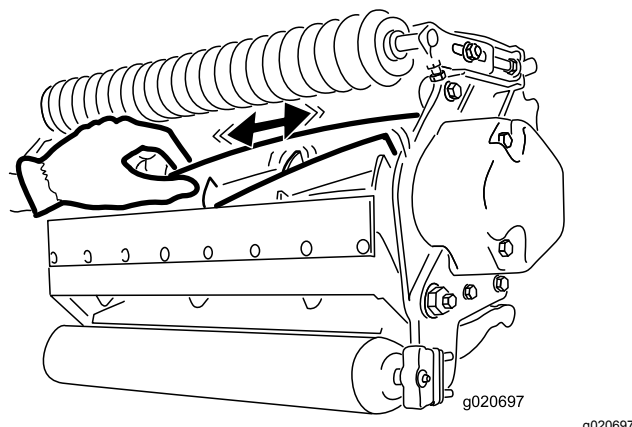

Figure 27
2. Using a rag or thickly padded glove, hold on to the reel blade and try to move the reel assembly side to side (Figure 27).